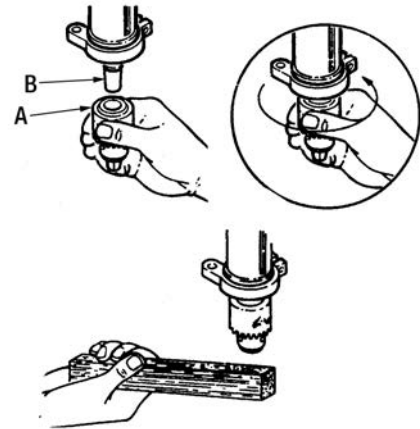

FIGURE 14
1. Locate the chuck (A) Fig.14 in the box of parts.
2. Clean out the tapered hole in the chuck, also clean the spindle nose (B) with a clean cloth. Make sure there are no foreign particles sticking to the surfaces. The slightest piece of dirt on the spindle nose or the chuck will prevent the chuck from seating properly. This will cause the drill to "wobble".